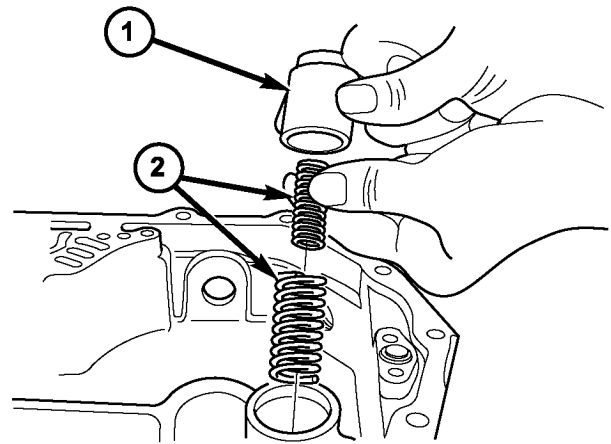

Fig. 149 Low/Reverse Accumulator
(59) Install low/reverse accumulator (Fig. 149).